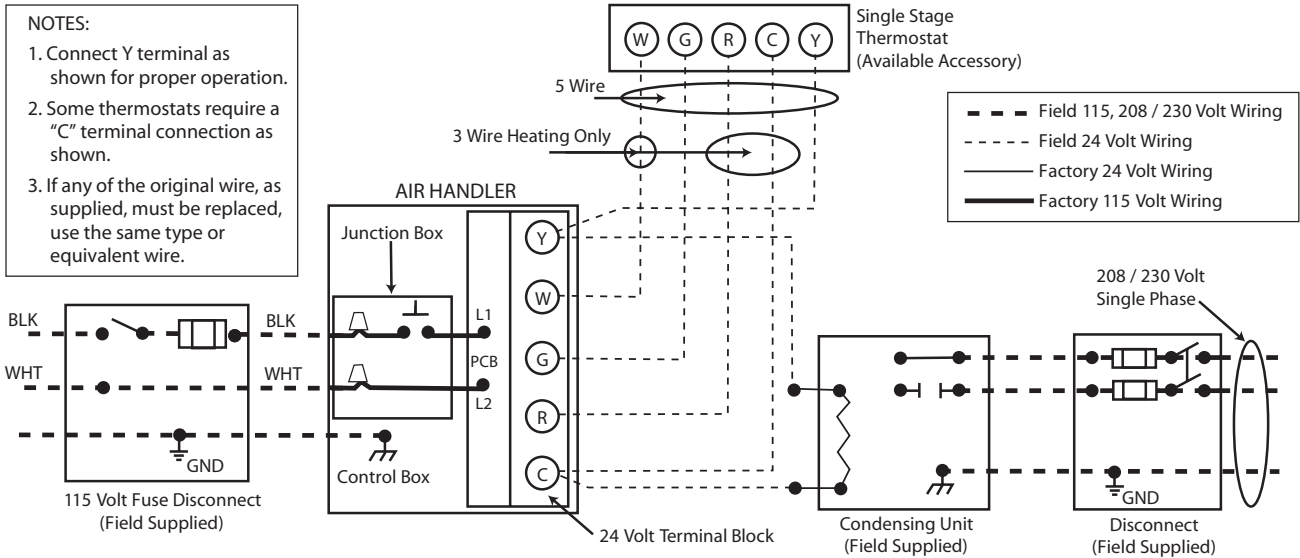

FIGURE 12 Field Wiring Diagram
3. Connect line voltage leads as shown in Figure 12.
Refer to Figures 12 for factory wiring details. For low voltage connections between the unit and the thermostat, use No. 18 AWG color-coded, insulated (63° F / 35°C minimum) wires.
Refer to Figures 12 through 13 for factory wiring details. The Standard Model A/C thermostat may be wired with or without connecting a common wire between the indoor equipment and the thermostat. However, it is recommended to use a common wire whenever possible. Do not use a power-stealing thermostat. If an evaporating coil is installed above the hot water coil, then a Freeze stat **must** be installed to prevent potential freeze damage to the hot water coil and subsequent waster escape.
Refer to Figures 12 for thermostat wiring diagram and thermostat installation instructions for further details.